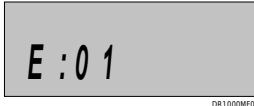

Figure 6a.
1. Press the Event button once. You will see the screen in Fig. 6a. This screen indicates which event you are entering, in this case Event 1.